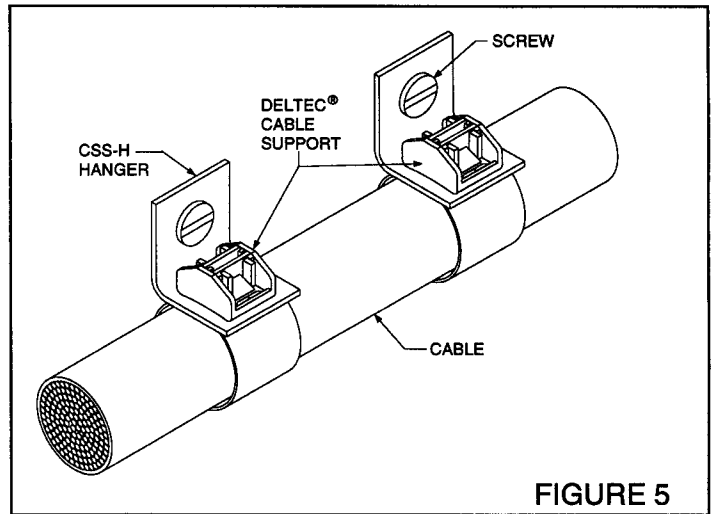

FIGURE 5
- 6.3 Loop strap around cable and pass back through the CSS-H and locking head, snug up and cut off. (see Figure 5)